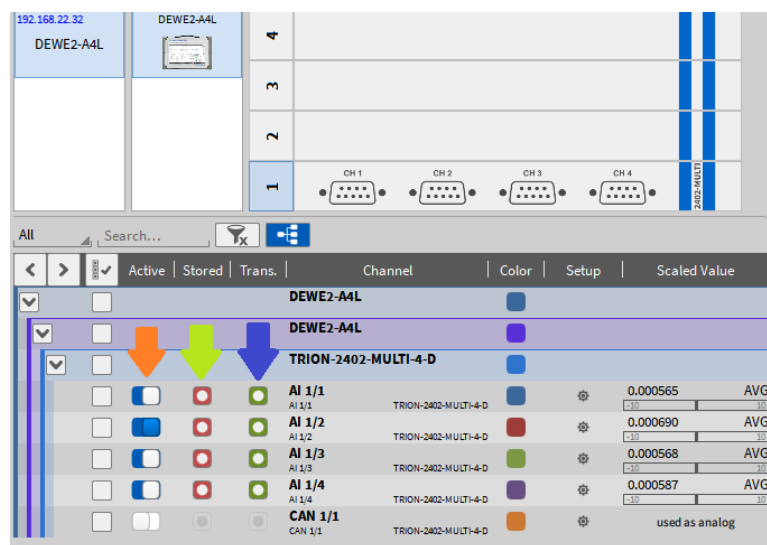

Fig. 15.17: Slave unit channels visible in the Master units' Channel List
Hardware channels from any Slave Unit can be configured from any Master Unit. This includes all channel simple and advanced channel settings except the *Stored* column (green arrow in Fig. 15.17) in the data channels overview. For Multi-Master systems this means, property changes of hardware channels on one Master Unit will automatically be implemented on every other Master Unit. To prevent communication conflicts, we strongly recommend configuring these settings on only one Master Unit at a time.
- *Active*: the slider marked with an orange arrow in Fig. 15.17 will activate or deactivate the data acquisition from a channel
- *Stored*: the red button marked with a green arrow in Fig. 15.17 will enable the storing of the data
- *Trans.*: the green button marked with a blue arrow in Fig. 15.17 will enable the data transfer from the Slave unit to the Master unit.